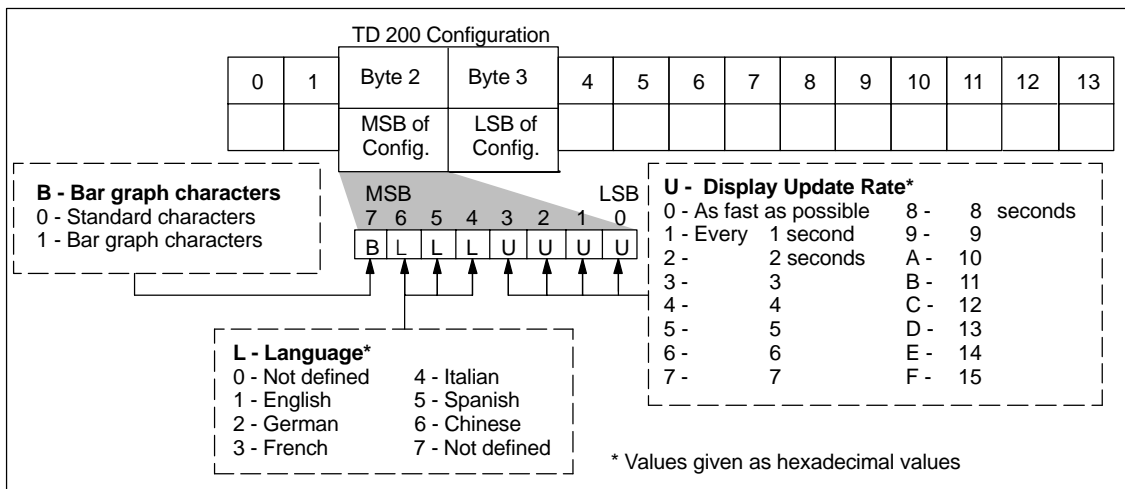

Figure D-3 Information Contained in Byte 2 of the TD 200 Parameter Block
Byte 2 of the TD 200 parameter block allows you to configure the desired language and the update time. Figure D-3 shows the information contained in Byte 2 of the parameter block.
- **(L) Language** The language selection determines the display language of the TD 200 menus.
- **(U) Update Rate** The update rate selection determines how often the TD 200 polls the S7-200 CPU for messages to display. The actual update time may be slower depending on the size of the message and the processing required.
- **(B) Bar Graph Characters** The bar graph characters selection enables the use of characters designed for displaying bar charts on the TD 200. See Appendix A. This selection is valid only when the original TD 200 character set being used. (See “B” in Figure D-3.)